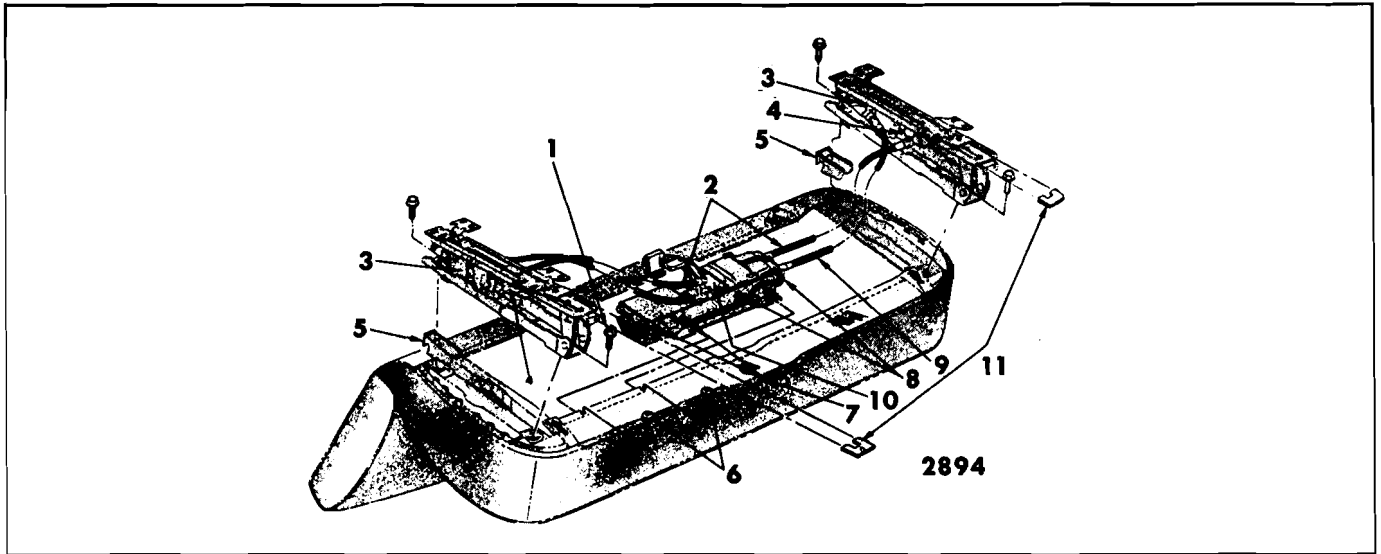

Fig. 15-15—Front Seat Assembly - Four-Way Tilt - Buick "B, C & E" Styles
3. Remove screws securing motor and transmission support to seat bottom frame (Fig. 15-15).